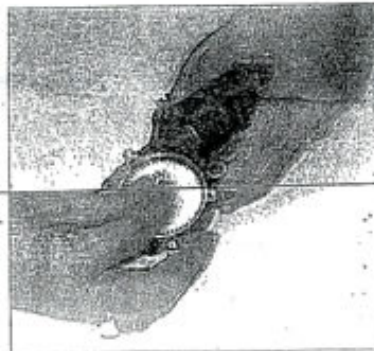

FIG. 4
5. With the motor housing now loose, wiggle the housing away from the plastic gear and pull the gear shaft upward to remove it from the housing. The resistance is caused by the interference between the worm gear and the plastic gear. **NOTE:** Use of pliers may be necessary. Be careful not to damage the shaft. (Figs. 4 & 5)